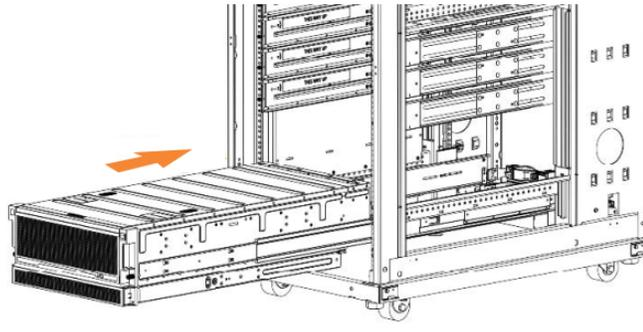

Figure 54. Example installation of the enclosure in the rack
- Install the expansion enclosure in the lowest position in the rack. Figure 54 on page 97 shows an example.